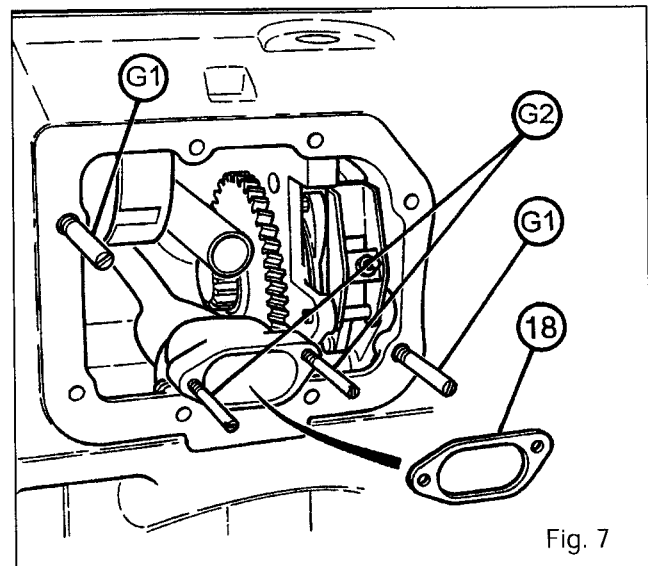

Fig. 7
9. Slide the gasket **(18)** on the guide dowels **G2**, with the face on the manifold side lightly smeared with silicone (Silicomat type). Screw the two diametrically opposite guide dowels **G1** on the housing (Fig. 7).